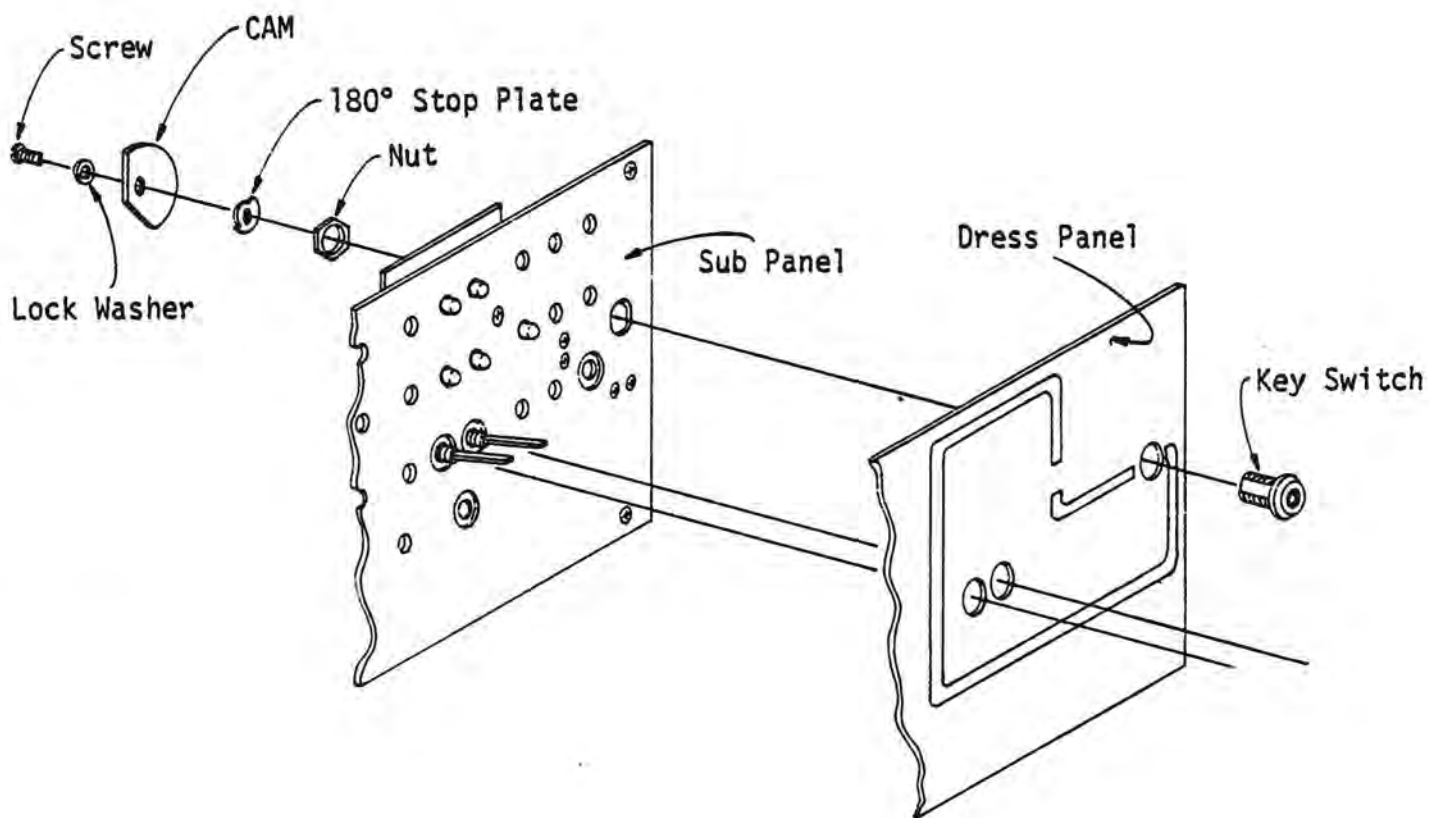
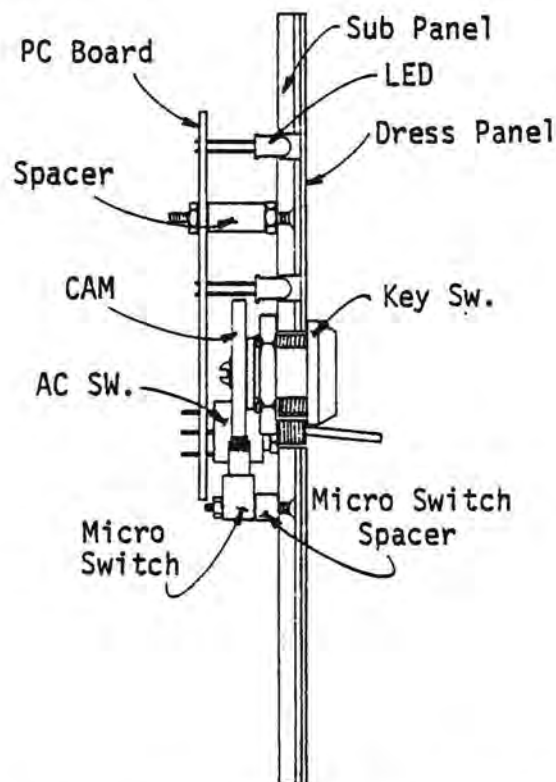

Figure 5-73 Key Switch Installation
Figure 5-74 Dress Panel Mounting on the Subpanel
Before installing the key switch study Figure 5-73 to determine the proper order and precise orientation of the hardware used for installation of this component. If the cam and 180° stop plate are not positioned correctly the key switch will not make proper contact with the microswitches.
2. Insert the key switch in the dress panel as illustrated in Figure 5-73.
3. Mount the dress panel (with key switch) on the subpanel as illustrated in Figure 5-73. Install the remainder of the hardware (180° stop plate, cam, star, lock washer, screw). Figure 5-74 is a side view of the assembled hardware, keyswitch, subpanel and dress panel.